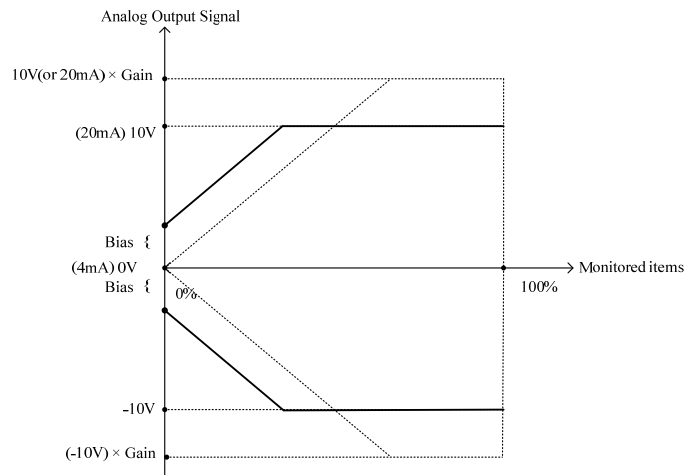

Figure 4.3.51 Analog output level adjustment
- (1). Adjustment of analog output AO1 and AO2 (04-12, 04-13 and 04-17, 04-18).
- . As to the analog output level adjustment, please refer to Figure 4.3.51.